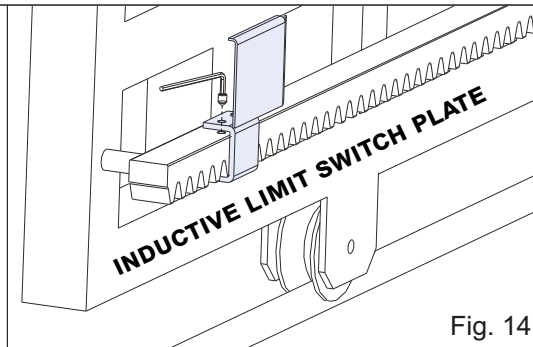
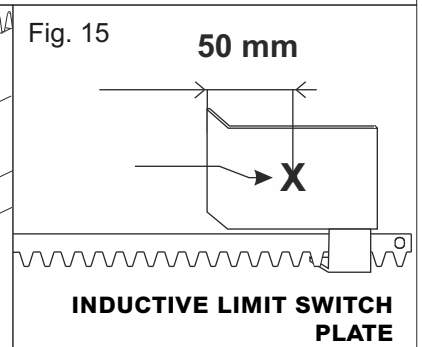

Fig. 14
Fig. 15
- **INDUCTIVE LIMIT SWITCH:** place the plate (Fig. 14) on the rack according to the desired gate stop position; fix the plate on the rack using the screws. Bring the inductive limit switch opening plate (indicated by an arrow on the limit switch) in correspondence with point «X» of the plate on the rack (50 mm from the folded side of the plate - Fig. 15).
- **INDUCTIVE LIMIT SWITCH:** place the plate (Fig. 14) on the rack according to the desired gate stop position; fix the plate on the rack using the screws. Bring the inductive limit switch closing plate (indicated by an arrow on the limit switch) in correspondence with point «X» of the plate on the rack (50 mm from the folded side of the plate - Fig. 15).